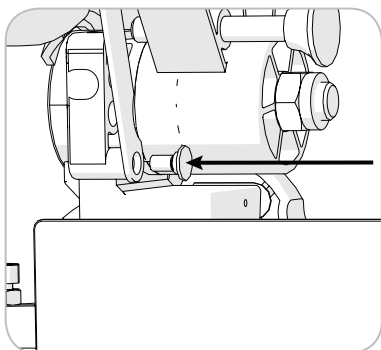

Fig. 27
- Replace the guard operating arm and its retaining pivot screw. (**Fig. 27**)